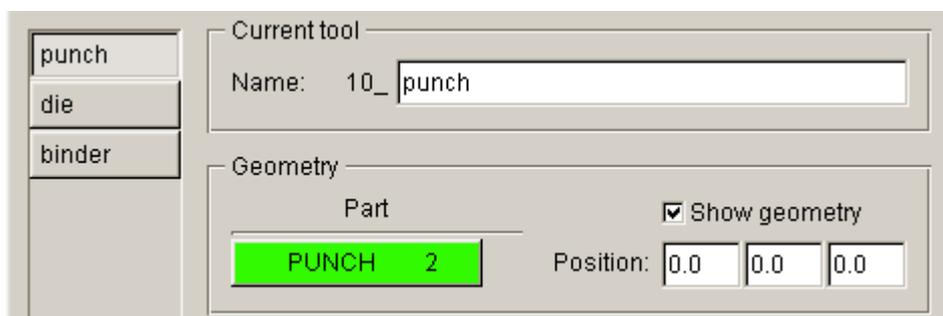

Figure 2.25 Punch definition interface
- Click **Exit** button to return to tool definition interface. Now, you can observe the font color of **punch** is changed to BLACK. See Figure 2.25.